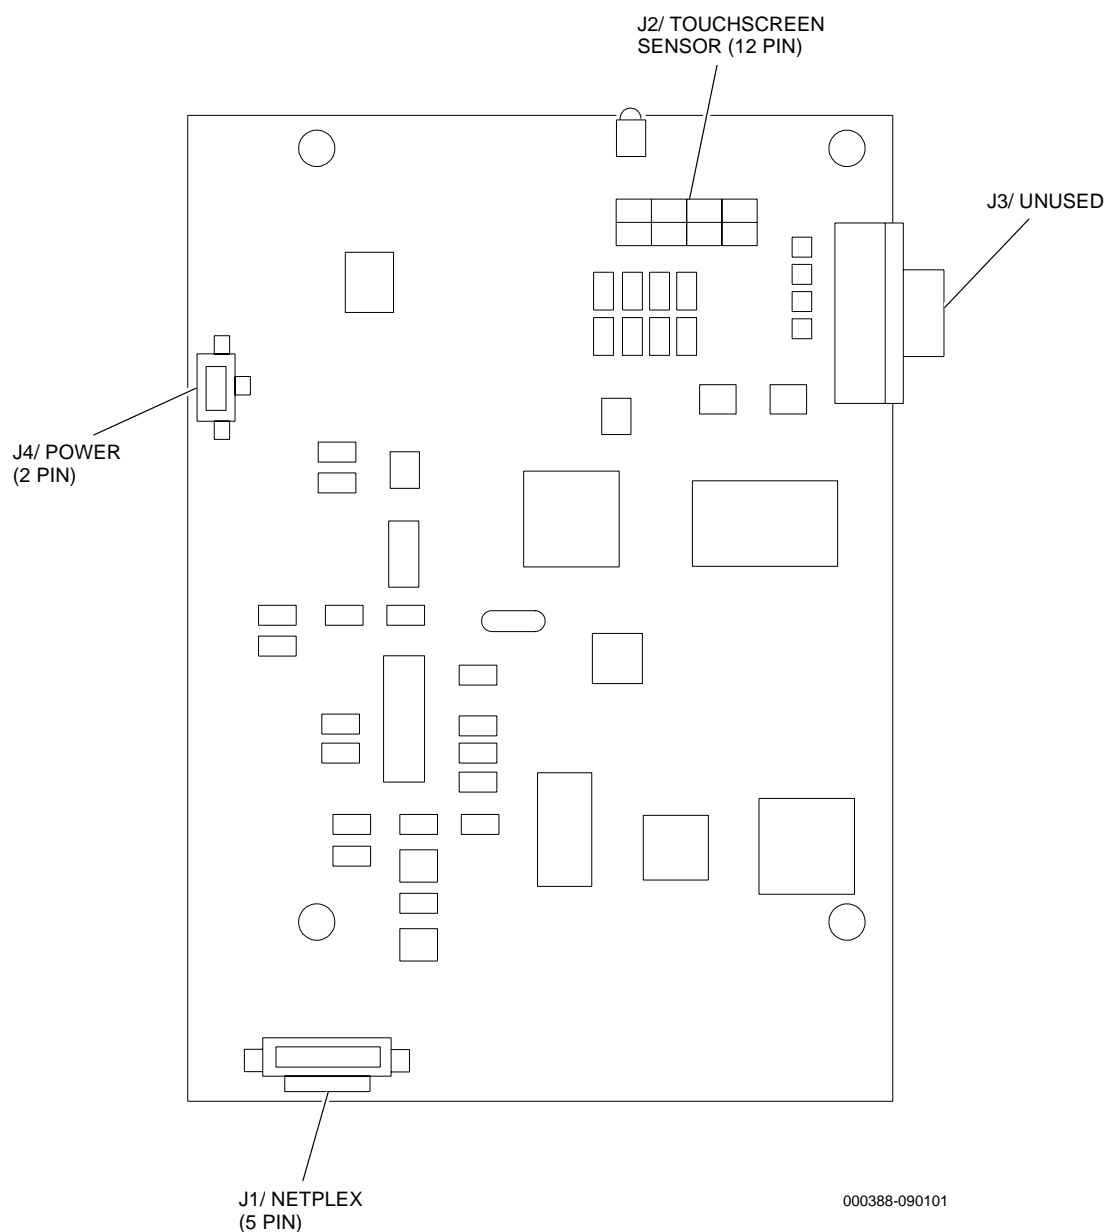

Figure 13-9. Touchscreen Controller Board Connectors
2. Tighten the screws and reconnect the connectors to the board. See Figure 13-9 for proper placement of connectors.